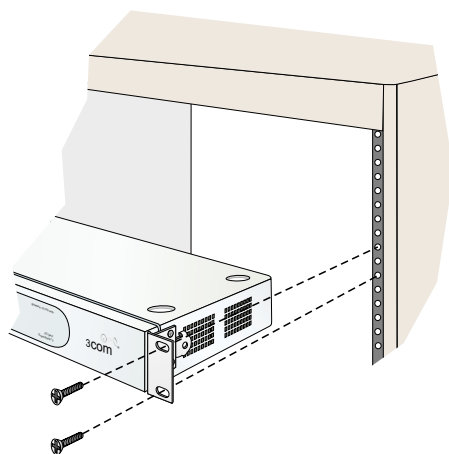

Figure 2-4 Rack Installation (Ethernet Hub)
3. Secure both sides of the hub to the rack-mount standards as shown in Figure 2-4. Use the 1/8-inch Allen wrench and four Allen-head mounting screws (10/32 x 0.5-inch) provided.